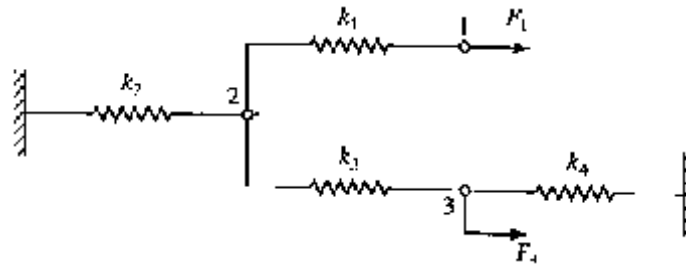

Fig. 1
1. a) Determine the displacements of the nodes of the spring system shown in the Fig.1. if, $K_1 = 40 \text{ N/mm}$, $K_2 = 50 \text{ N/mm}$, $K_3 = 60 \text{ N/mm}$, $K_4 = 80 \text{ N/mm}$, $F_1 = 100 \text{ N}$ and $F_2 = 150 \text{ N}$. [6M]